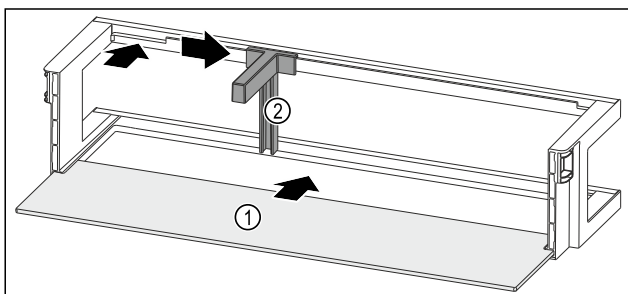

Fig. 119 Door rack with shelf
- ▶ Push the shelf Fig. 119 (1) into the side recesses.
- ▶ Insert the bottle holder Fig. 119 (2) in the recess.
- ▶ Push the bottle holder Fig. 119 (2) to the desired position to the side.